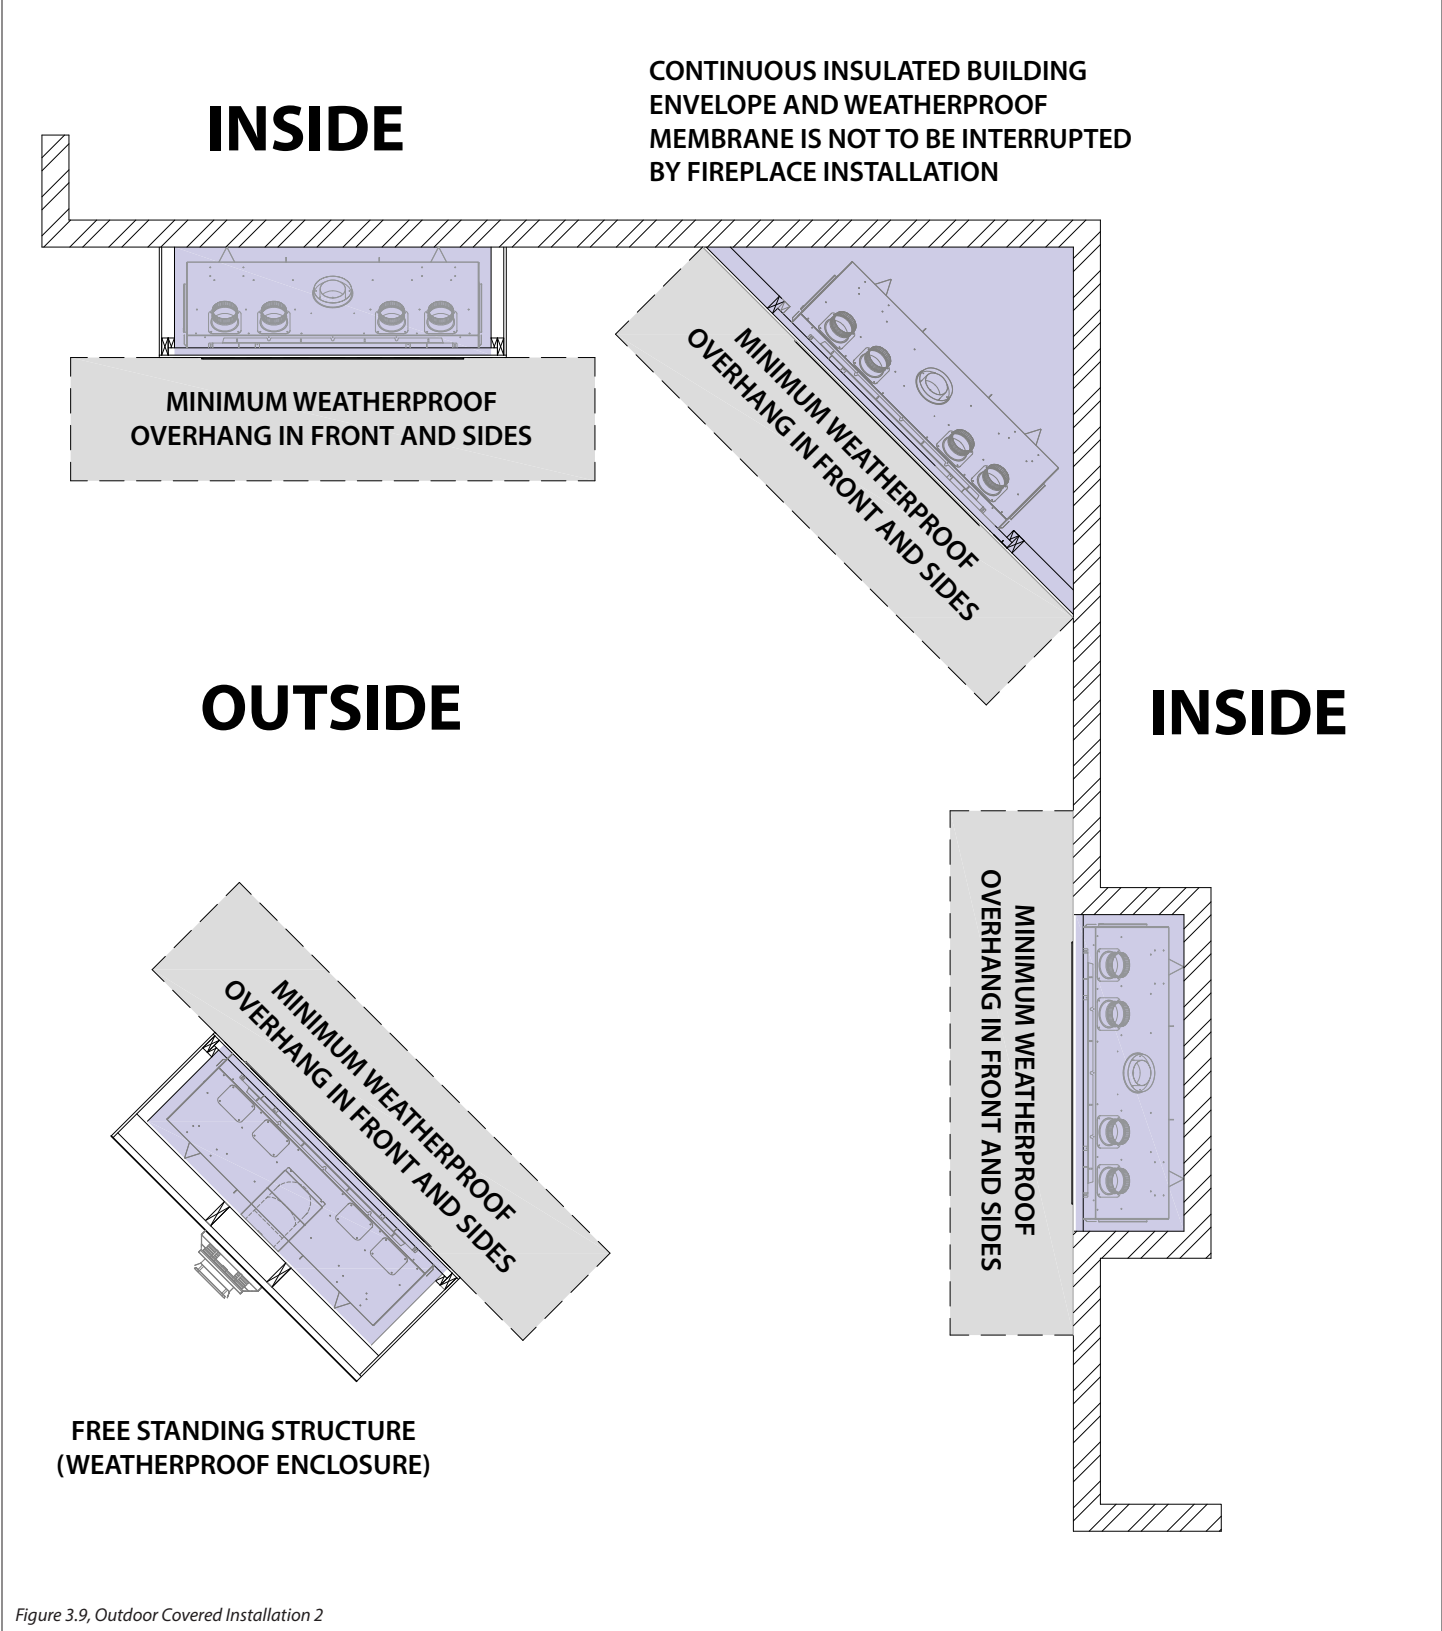

Figure 3.9, Outdoor Covered Installation 2
- The continuous insulated building envelope and weatherproof membrane is not to be interrupted by fireplace installation. See Figure 3.9 on the following page.
1. Remove the (6) cover plates that correspond to the vented cavity options front or top vented cavity. See Figure 3.9. If planning to install a Kozy Zone kit, these (6) cover plates will also have to be removed. See the #KZK-072 or #KZK-1510 manual for further fireplace preparation.